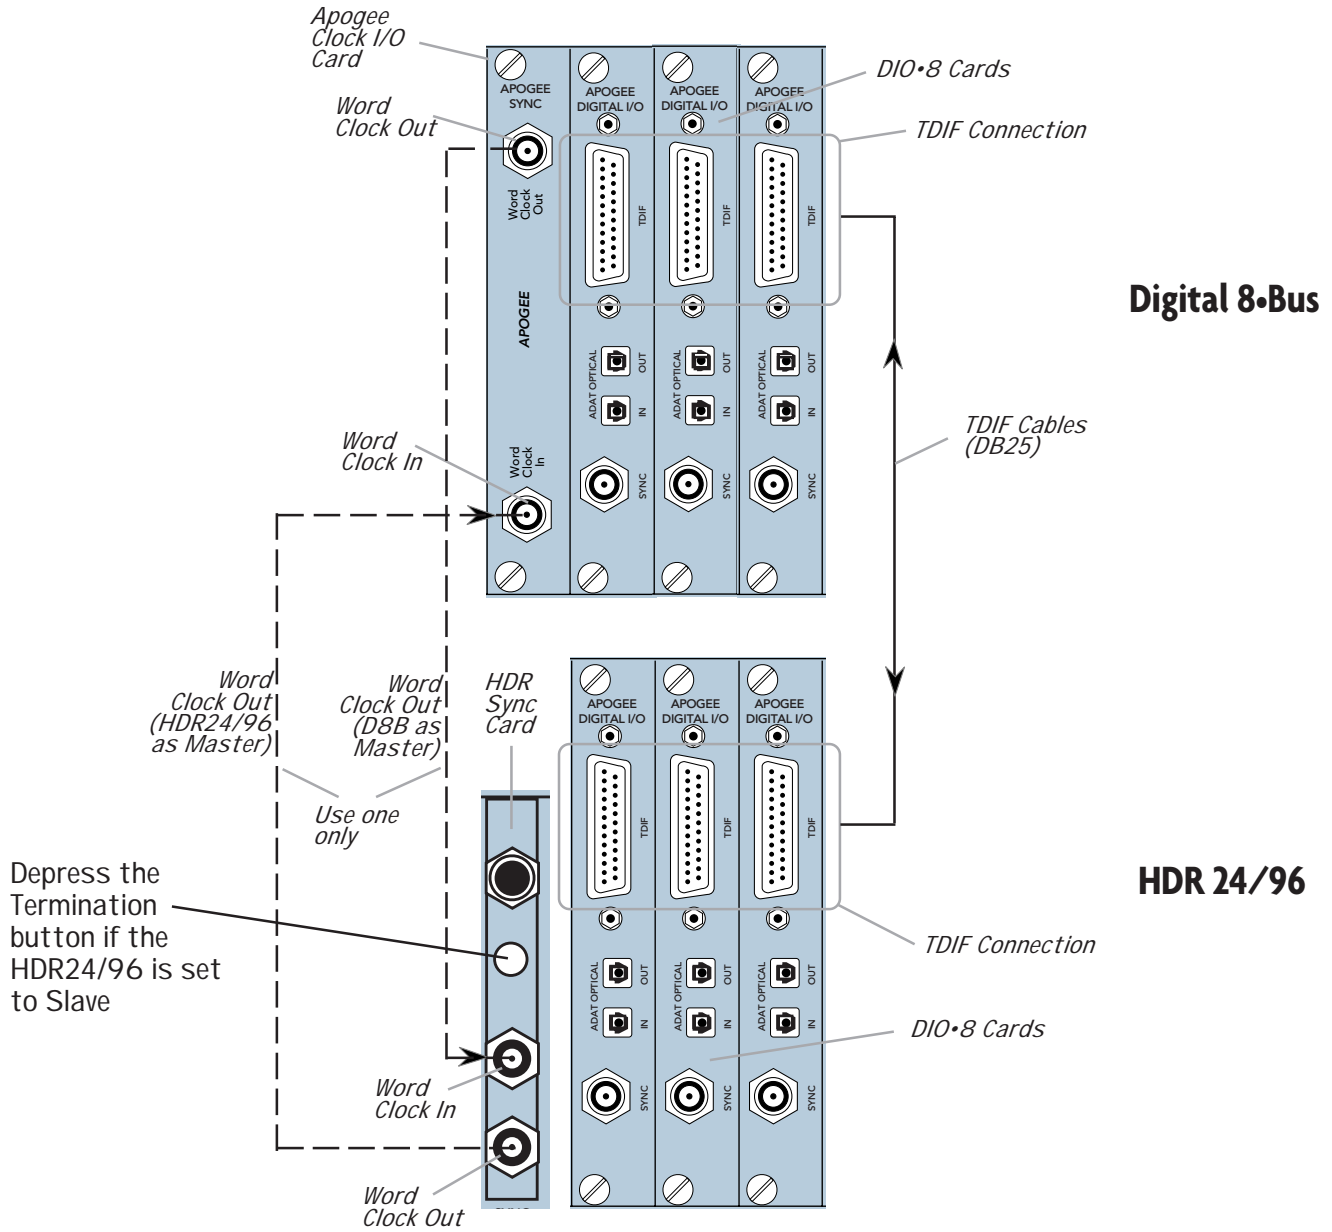

Figure 1
2. When TDIF is used, the D8B must have a Clock I/O card installed. To make the D8B the clock master, connect its Word Clock Out (not DIO•8 Sync out) to the HDR24/96 Word Clock In. To make the HDR24/96 the clock master, connect its Word Clock Out to the D8B Word Clock In. See *Figure 1*.
**Note:** Determining which unit in *Figure 1* provides the master clock depends on your application. For information on advanced applications, see the Applications Manual.